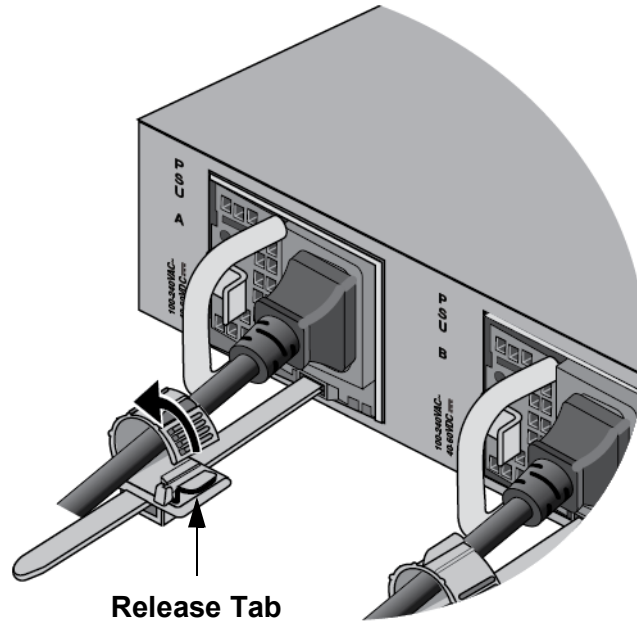

Figure 144. Opening the Restraining Strap on the Power Supply
2. Open the restraining strap on the power cord by pressing down on the release tab and pulling out the strap. Refer to Figure 144 on page 248.